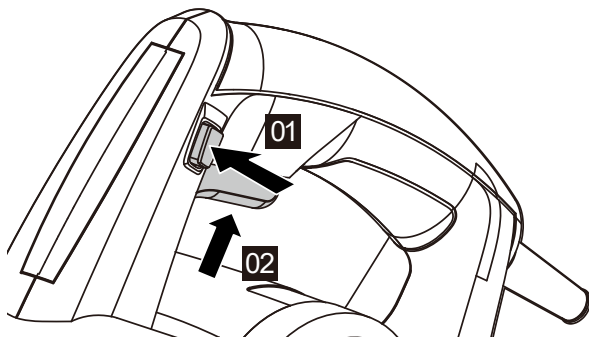

Figure 7
3. ON / OFF SWITCH (SEE FIG. 7)